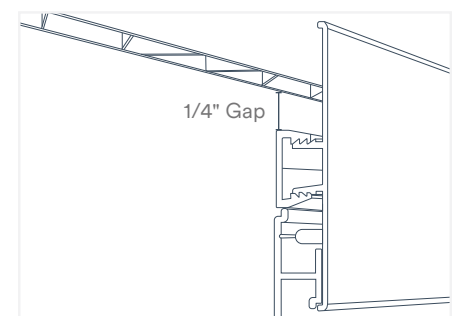

Fig. 29
1. Position the U Channel base to ensure that when the H Channel Snap-In is inserted in place, the lip at the outer edge of the H Channel Snap-In aligns with the top row groove of the SlatWall panel (Fig. 29). When fastening the U Channel base to the wall, leave a gap of approximately 0.25" (1/4") between the U Channel base and the Wall&CeilingBoard installed above the SlatWall area.